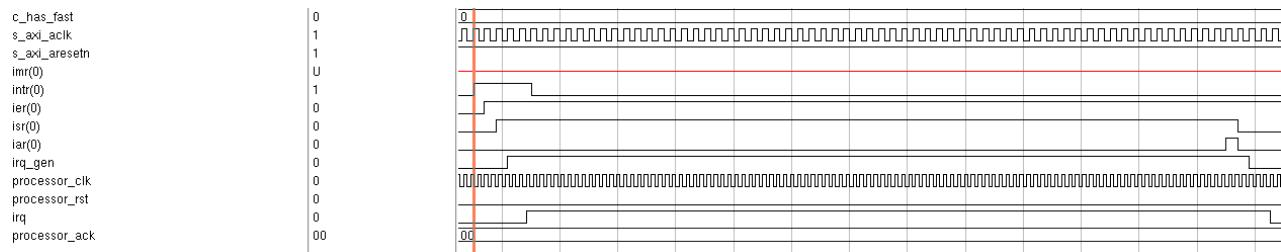

Figure 3-5: Input Intr - Level Sensitive (High), Output IRQ - Level Sensitive (High), C_HAS_FAST = 0
- Configured Input Interrupt (Intr) for Level sensitive (active-High), Output Interrupt Request (IRQ) to Level sensitive (active-High), disabled fast interrupt logic (C_HAS_FAST = 0). Timing diagram is shown in Figure 3-5.